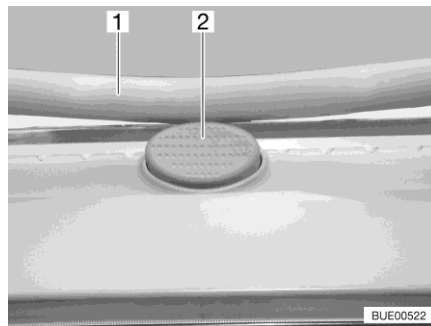

Fig. 31 Safety knob (Heki skylight)
- Press the safety knob (Fig. 31,2) and pull the bar (Fig. 31,1) down with both hands.
- Push the bar upwards with both hands until it is above the safety knob (Fig. 31,2).